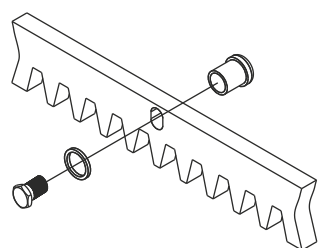

Fig. 8
5.2. Fix on each gear rack element the support pawls with the appropriate lock screws, making sure to put them in the upper part of the hole (Fig. 8) ;